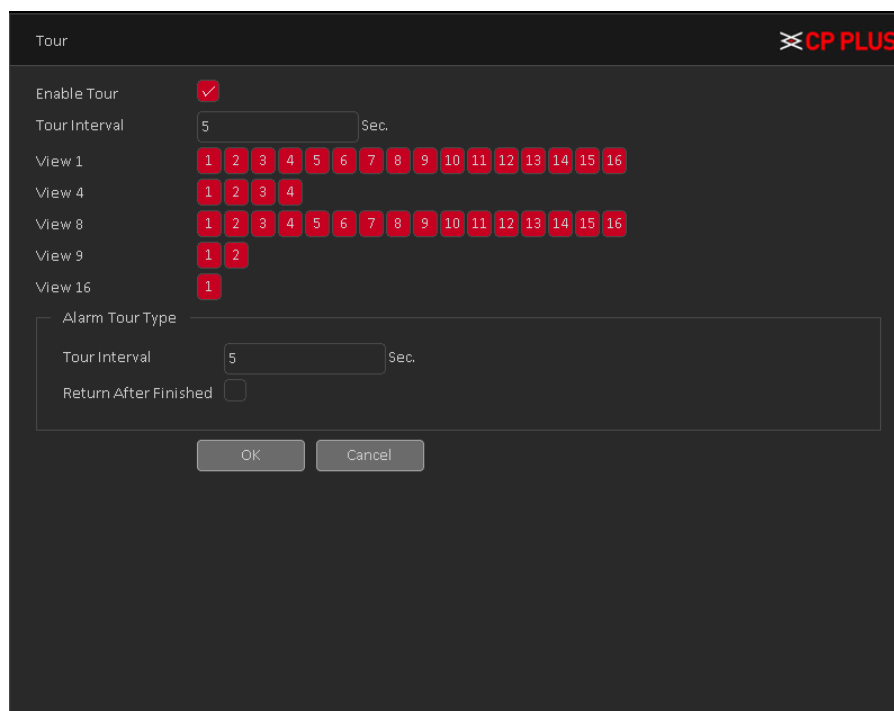

Figure 4.56
- **[Tour]** Set the patrol display. Click the tour button in new window, click to enable display tour option.  Mean that the tour mode is enabled. You can choose the single-view, four-view, eight-view of single mode tour or hybrid mode tour. Tour interface is shown as in Figure 4.56.